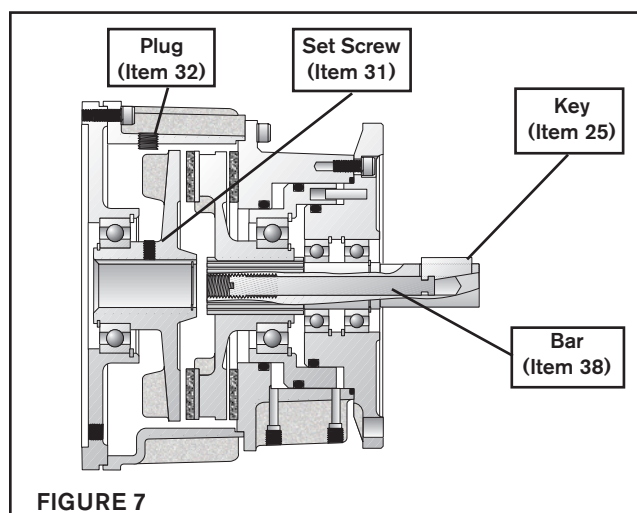

FIGURE 7
1. Remove the Plug (Item 32) and loosen the Set Screw (Item 31) securing the FMCBE to the motor or Input Unit (See Figure 7).